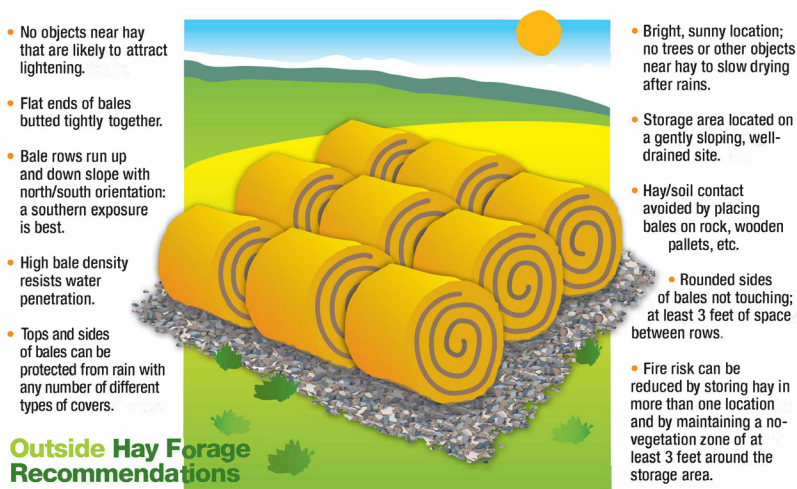

Figure 3. Outside hay storage recommendations
- Contact with soil is usually the most important source of spoilage of hay stored outside and should be eliminated if possible. This and other outside hay storage tips are illustrated in figure 3.